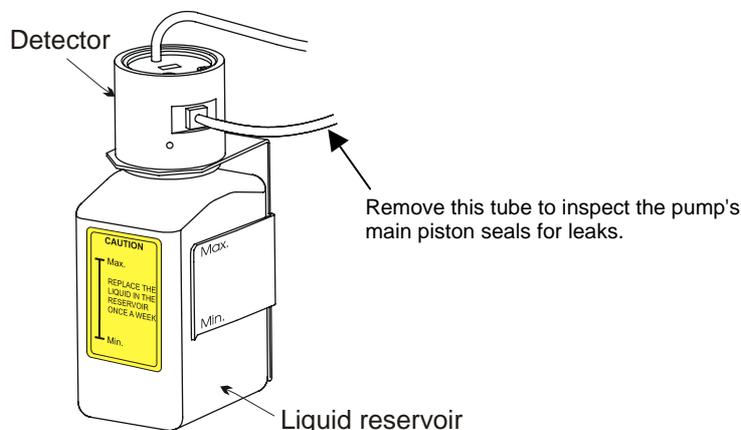

Fig. 57: Liquid reservoir of the rear-seal wash system
- Remove the silicone tube from the detector of the rear-seal wash system (→ Fig. 57). Remove some of the liquid by shaking the tube.